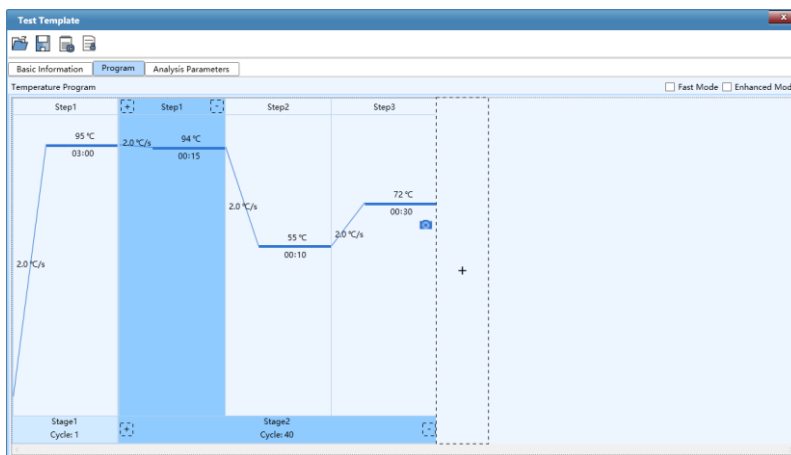

Figure E-3.5b Test Template Interface – Program
- **Program** tab: It is shown as figure E-3.5b. For detailed operations, please refer to E-.3.3.1 Run Setting.